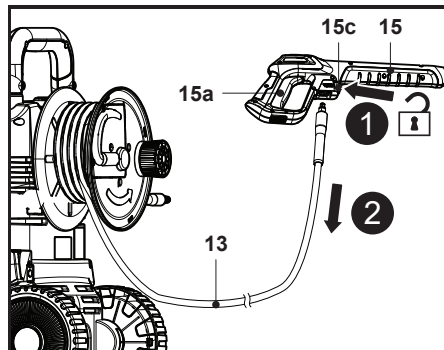

Fig. 8
3. To disconnect the pressure hose (13) from the spray gun (15), push the quick release lever (15c) towards the pressure hose (13) and hold it in place, then pull out the pressure hose (13) (Fig. 8, steps 1, 2).